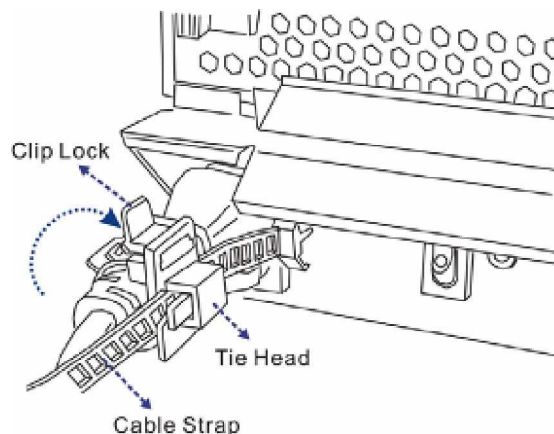

Figure 2-16: Power Cord Locked into Position
Step 4. Secure the power cord with the cable clamp. Flip open the cable clamp and wrap it around the power plug. If necessary, use the release tab to adjust the location of the clamp so it aligns with the base of the power cord as shown below. Press the clip lock on the side of the clamp until it snaps into position. Now the power cord connection is secured. (See **Figure 2-16**)